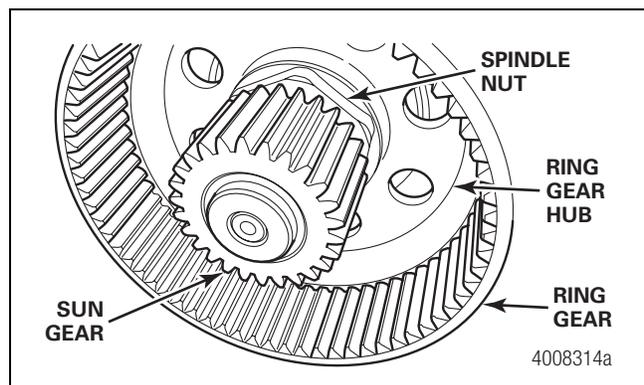

Figure 8.18
10. Install the sun gear thrust washer against the spindle with the tabs facing inward. Install the sun gear onto the axle shaft. Figure 8.18.